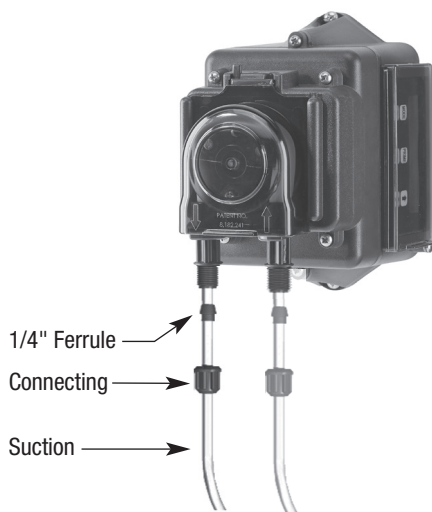

Fig. 4
7. Connect nut, ferrule, and remaining tube to the discharge side of the pump head (labeled "down" on the cover of the pump). Hand-tighten only. (Fig. 4)